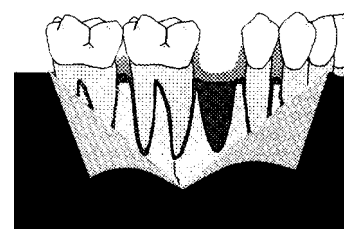

Fig 1
1. Site selection is analyzed and a determination is made as to the type of treatment indicated. Consideration should be given to either a conventional fixed bridge or an implant retained restoration (Fig. 1). In the example that we will follow here, a missing mandibular second bicuspid will be replaced with an implant supported restoration utilizing the Hexed Gold UCLA Type Abutment.